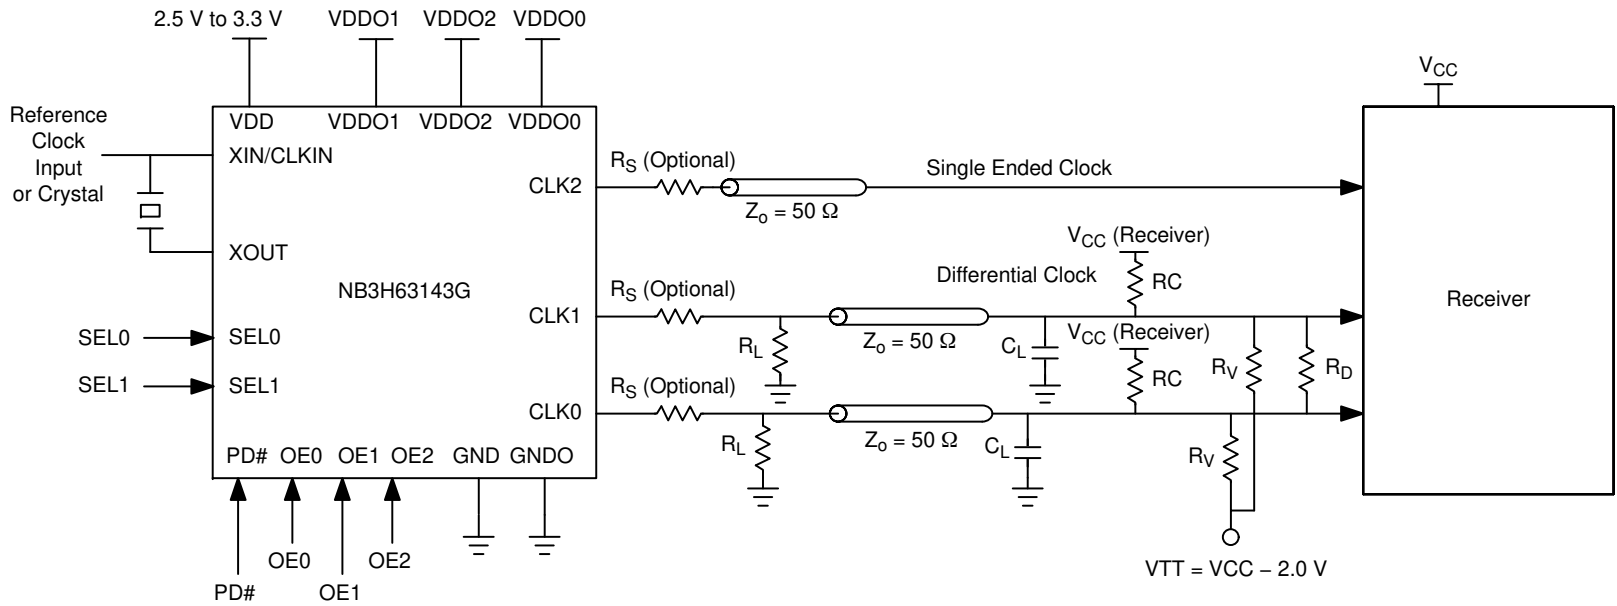

Figure 6. Typical Termination for Single Ended and Differential Signaling Device Load
- Measurement taken with single ended clock outputs terminated with test load capacitance of 5 pF and 15 pF and differential clock terminated with test load of 2 pF. See Figures 6, 7 and 12. Specifications for LVTTTL are valid for  $V_{DD}$  and  $V_{DDO}$  3.3 V only.
- 20. Measurement taken from single ended clock terminated with test load capacitance of 5 pF and 15 pF and differential clock terminated with test load of 2 pF. See Figures 6, 7 and 12.